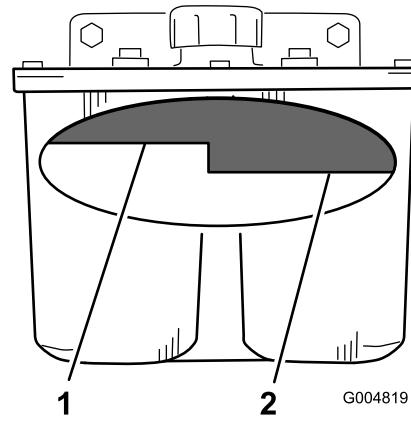

Figure 61
2. Clean the area around filler neck of hydraulic tank (Figure 61).
3. Remove the cap from the filler neck. Look inside to check if there is fluid in the reservoir (Figure 61).
Note: The fluid level should be to the top of the hot level of the baffle, when the fluid is hot (Figure 61).